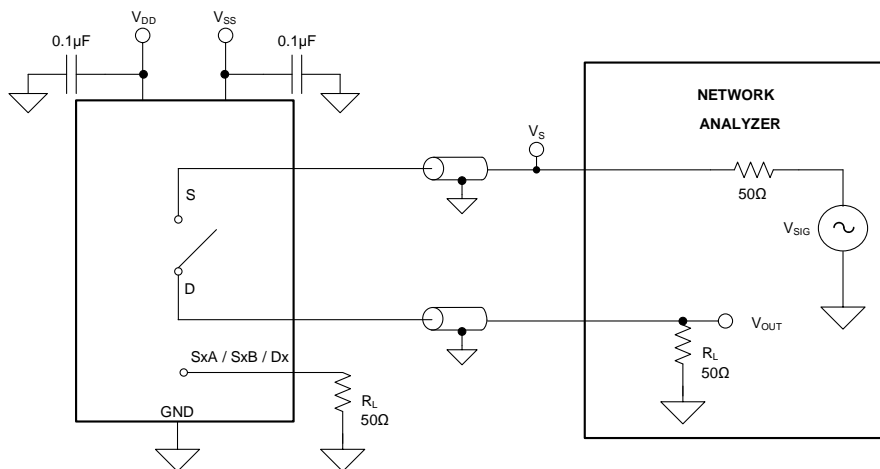

Figure 23. Off Isolation Measurement Setup
Off isolation is defined as the ratio of the signal at the drain pin (D) of the device when a signal is applied to the source pin (S_x) of an off-channel. Figure 23 shows the setup used to measure, and the equation used to calculate off isolation.